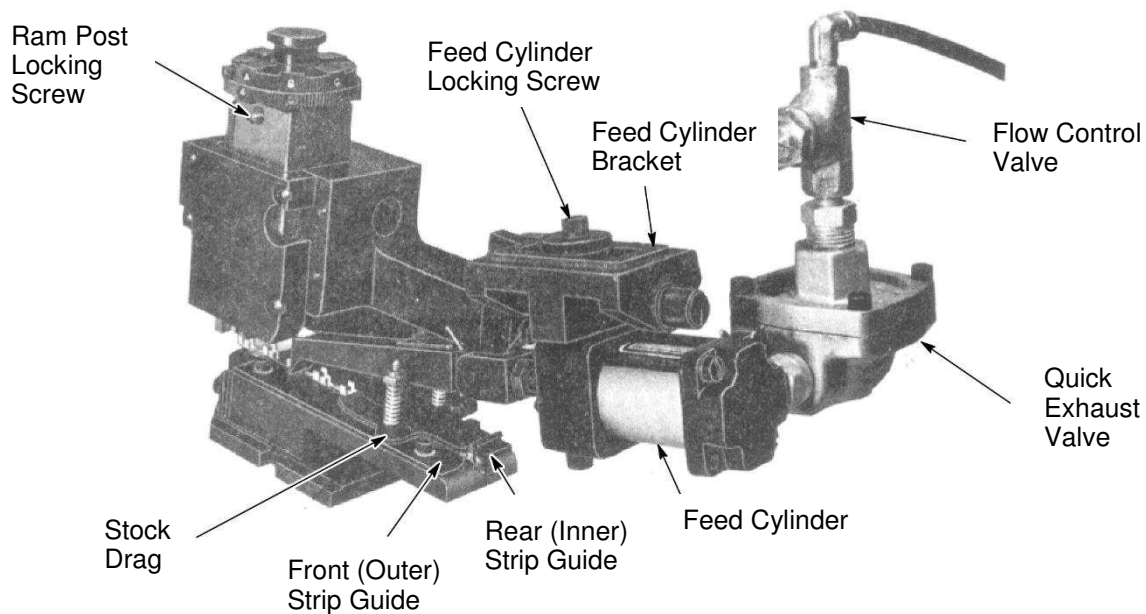
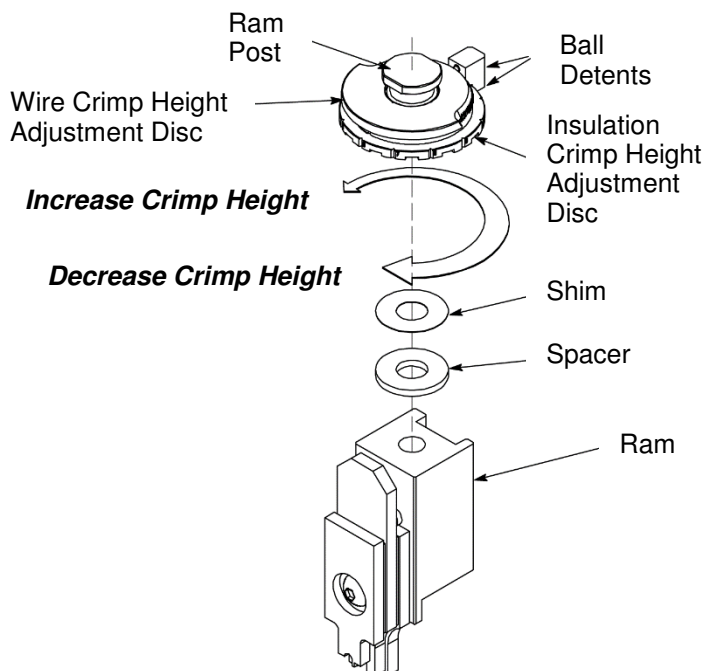

Figure 5
Figure 7
- (1) Slightly loosen the feed cylinder locking screw on top of feed cylinder bracket (see Figure 5).
- (2) Turn on-off valve to the "off" position (AMP-O-ELECTRIC machine), or disconnect air supply to feed cylinder (automatic equipment). Feed finger should retract.
- (3) Turn feed adjustment screw CLOCKWISE to RETRACT forward limit or COUNTERCLOCKWISE to EXTEND forward limit of stroke.
- (4) Retighten feed cylinder locking screw, turn on-off valve to "on" position (AMP-O-ELECTRIC machine) or reconnect air supply to feed cylinder (automatic equipment).
Fine Adjust Assembly PN 879103-[] is factory installed and should require no further adjustment. If the assembly must be removed from the ram, be sure to loosen ram post locking set screw (reference Figure 5). The ram post can then be removed. Upon re-assembly, be sure that the two ball detents on the fine adjust assembly are aligned with the centerline of the insulation crimper and oriented relative to the front of the tooling (as shown in Figure 7). Ensure that the correct spacer (as per the appropriate applicator log) is re-assembled. Be sure that the ram post and ram post locking set screw are tight before re-installing the applicator into the appropriate terminating unit.